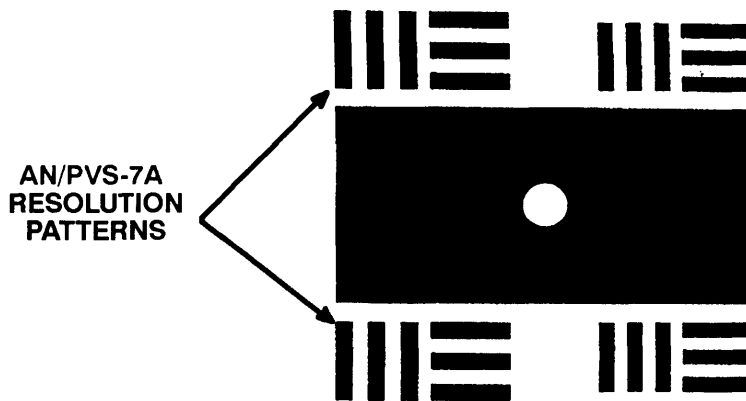

Figure 3-16. TS-3895/UV High-Light Resolution Test Pattern.
- e. Now observe the test pattern. The resolution test pattern has three horizontal lines and three vertical lines (see Figures 3-16 and 3-17). You must be able to distinguish all three horizontal lines and all three vertical lines and the space between the lines to count seeing the group. On the TS-3895/UV, you must be able to see the two largest groups for the AN/PVS-7A to pass. On the TS-3895A/UV, you must be able to see Group 3 on the top of the test pattern for the AN/PVS-7A to pass.